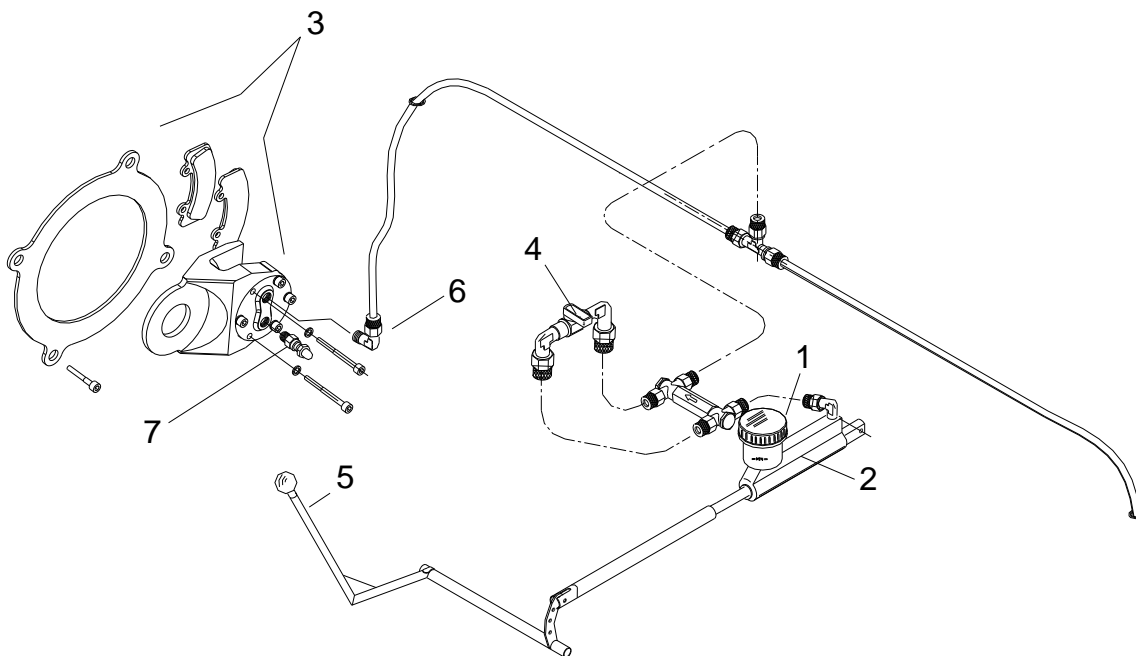

Fig. 1-7A Brake System
The brake system (see Figure 1-7A) consists of a brake fluid reservoir (1), a master cylinder (2) and two disc brakes assemblies (3); an intercept valve activates parking brake (4).